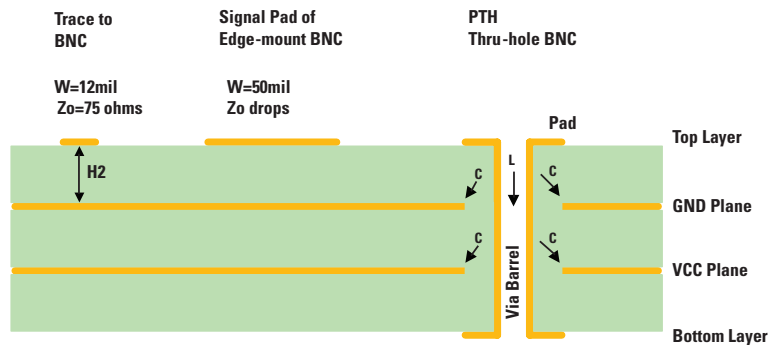

Figure 5. Cross-Sectional Diagram of BNC Footprints
A common problem in many SDI boards is the use of non-optimized BNC connector footprints that introduce severe impedance mismatches, failing to meet the return loss requirement and impairing the signal fidelity of the equipment. *Figure 5* illustrates the cross-section of a board with a 12-mil wide microstrip connected to a 50-mil wide pad of an edge-mount BNC. The ground plane is placed at a dielectric distance below the top trace to achieve the target trace impedance. The connector's landing pad is a wide microstrip; therefore the characteristic impedance of the pad is significantly lower than the trace impedance. The pad introduces a severe impedance drop that impacts return loss and limits the trace's transmission bandwidth.
*Figure 5* also illustrates the cross-section of a through-hole BNC footprint. The inner ground and power planes are isolated from the plated-through hole to avoid